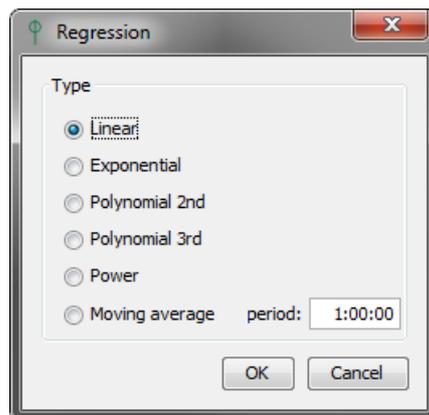

Fig. 17: Regression options dialog
4. Select proper regression type in displayed dialog – see Fig. 17